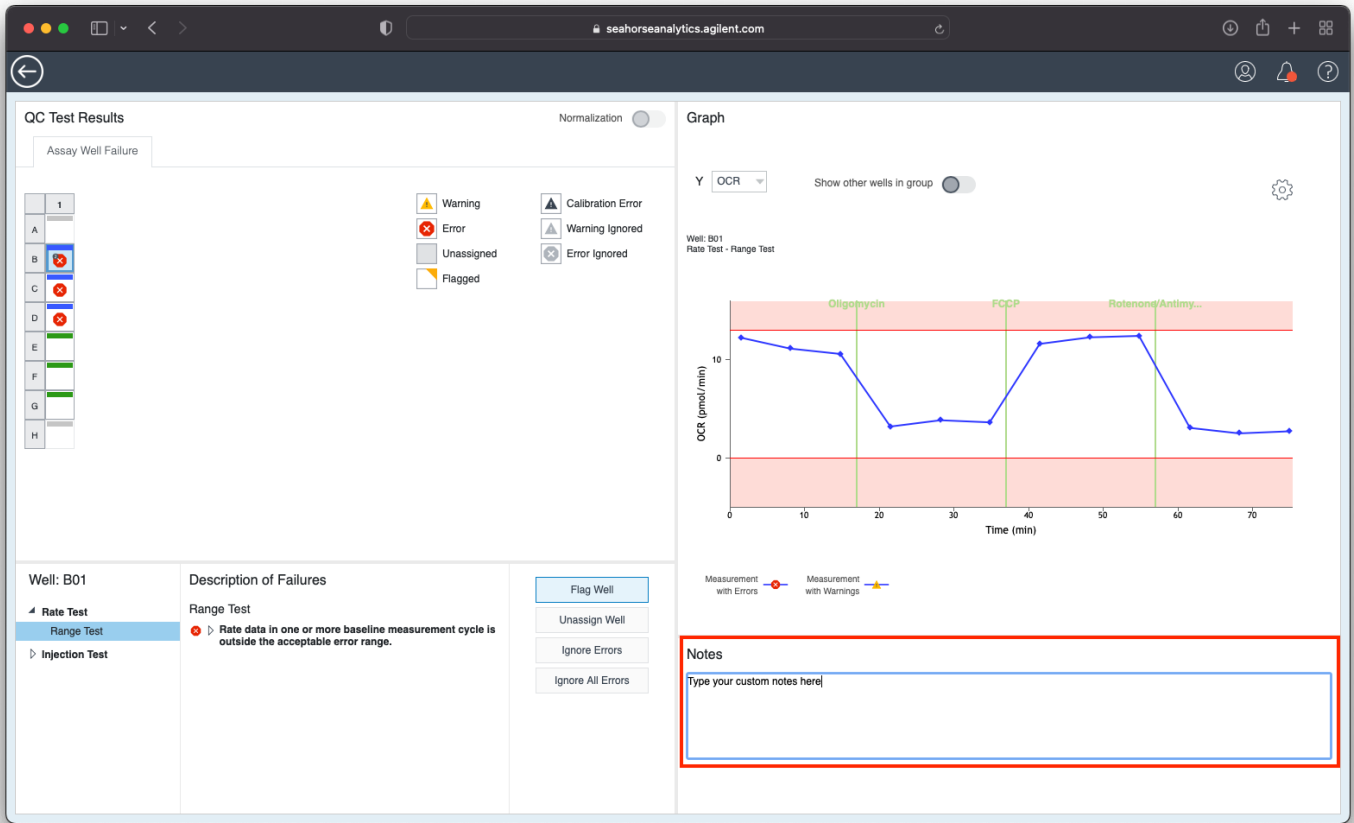

Figure 18. Notes area.
10. Each action performed on the Data Quality analysis view is logged in the Notes area. You can enter your own custom notes into the Notes field, and you can edit the automatically logged notes and any custom notes, if they exist in the file (Figure 18).